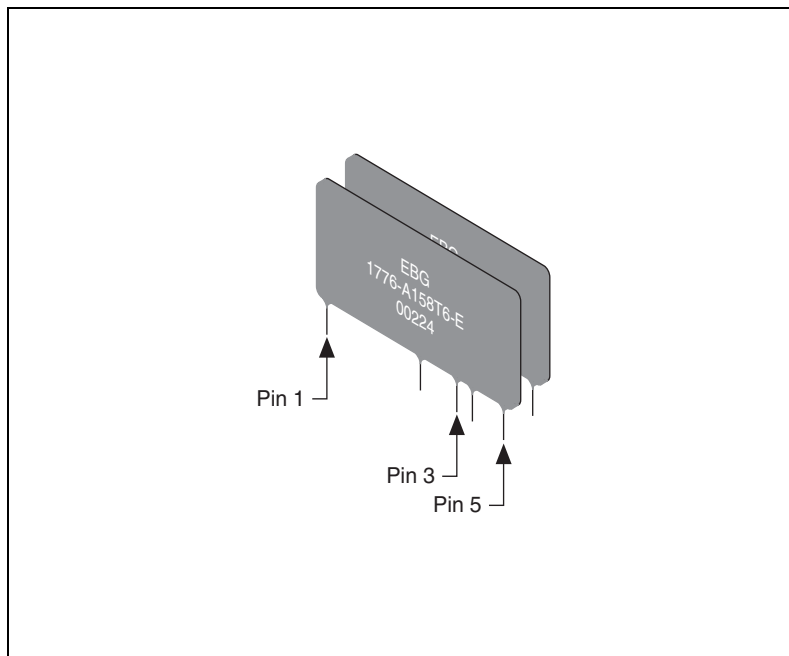

Figure 1. SCXI-1313 Resistor Network Pin Designations
Complete the following steps to verify the performance of each of the eight divider networks, RP1 through RP8. Figure 1 shows the pin designations on the resistor network.
1. Set your DMM for resistance measurement. To access the pins of the resistor networks, you need to remove the device from its casing. Refer to Figure 1 to locate the parts and do the following: